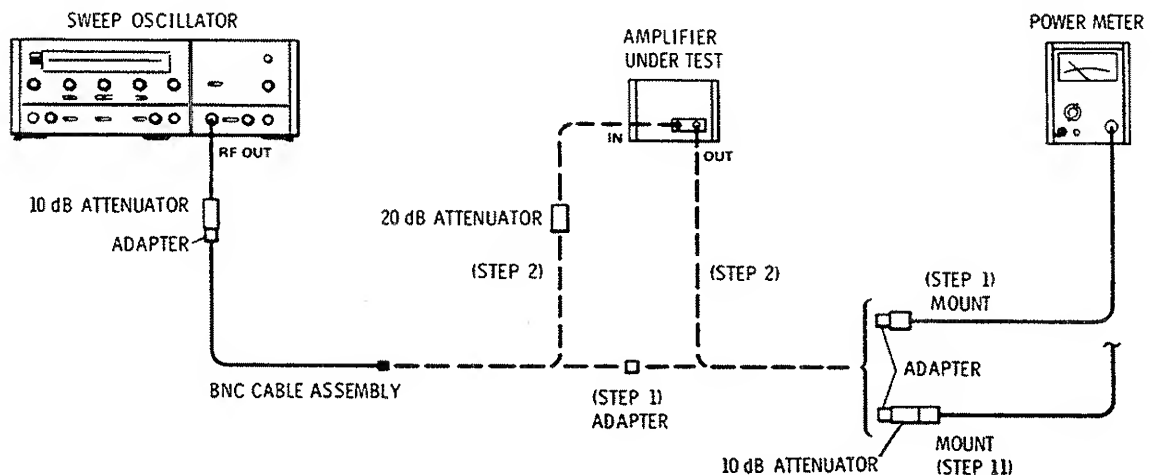

Figure 3. Gain Flatness, Mean Gain, and Gain Compression Test Setup: 10 MHz to 1.3 GHz
1. To measure gain flatness and mean gain, connect the equipment as shown in Figure 3. Set the sweep oscillator for a 1.3 GHz, leveled, CW signal; set the signal level for -10 dBm out of the 10 dB attenuator (read on the power meter).
11. To check compression, connect the power meter mount, through the 10 dB attenuator, to amplifier OUTPUT (as shown in Figure 3). Connect the sweep oscillator, through the 20 dB attenuator, to amplifier INPUT. Set the sweep oscillator for a leveled, 650 MHz, CW signal and set the signal level (read on the power meter) as follows: